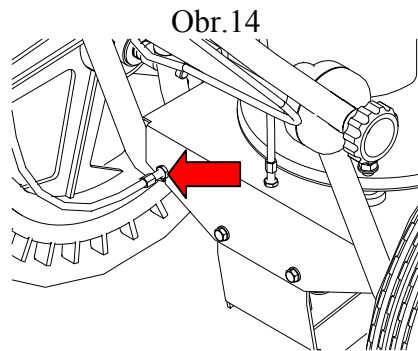
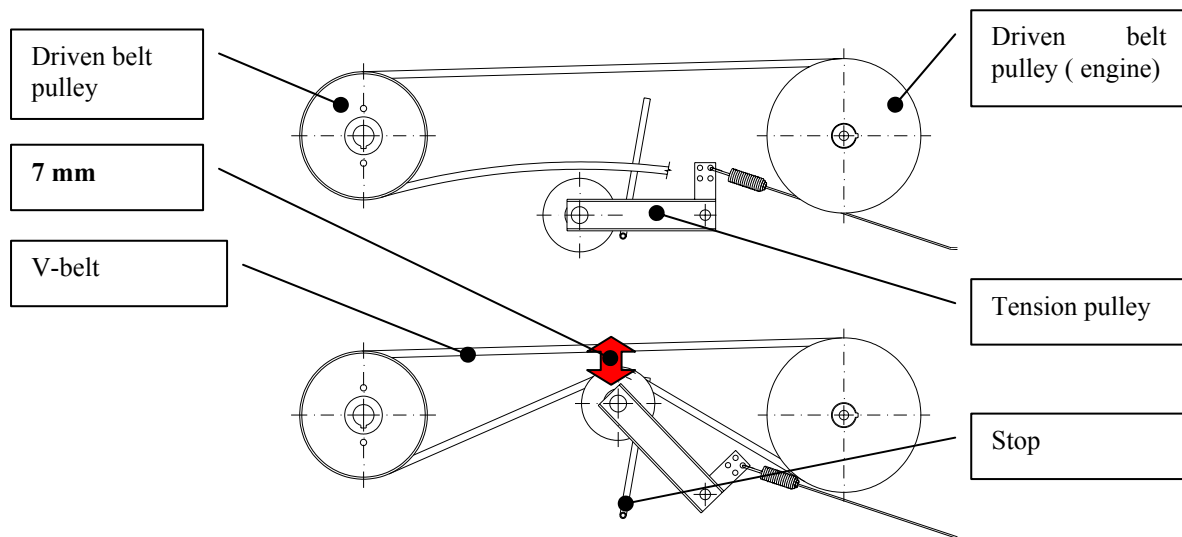

Figure 14
Figure 15
The V-belt should be replaced according to its wear (cracked sides, torn belt, sides worn out down to belt carrier fibres, belt pulled out of shape) or after about 100 hours of operation at the maximum. In this machine, the belt stretched to maximum is considered a belt in which the distance between the internal belt surfaces is lesser than 7 mm (Fig. 15 bottom) with the pressed horizontal bar of string head drive clutch.
| String head does not turn | Tightening pulley does not stress the belt sufficiently | Set-up tightening pulley by means of adjustment bolt (see Fig. 14) |
| | Excessive belt extension (see Fig. 15 bottom) | Replace the belt with a new one |
- e) Check the operation of the tightening pulley. With the horizontal bar on the handlebars being completely pressed down, the pulley must ensure a sufficient belt tension (spring on the litz wire being extended by about 10 mm as compared with the normal condition). Possible corrections are to be made by means of the adjustment bolt (see Fig.14). Use two spanners No. 10 or No. 9. With the lever switched off, the pulley must be leaning against the stop on the engine plate (Fig. 15 top) and the litz wire in the Bowden of the tension pulley can be slightly slack. In the case that the adjustment bolt is completely unscrewed and it is necessary to tighten the V-belt, the spring on the cable can be hooked into the front hole on the tension pulley arm and to set-up the belt tension once again.